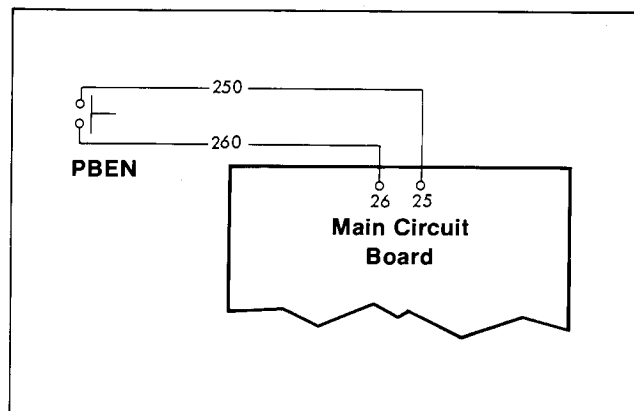

Figure 15. Bypass Switch Connection
- **Acc. 8-A, C Bypass Time Delay** Emergency to Normal may be used to override the standard Time Delay Emergency to Normal in transferring to the normal source. See Figure 15 for connections.